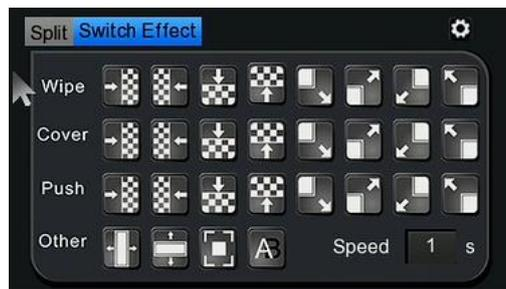

Figure 23 Switch Effect
2) **Switch effects**-As shown in Figure 23, the director of switching effects. According to the type is divided into: 1, erase wipe; 2, cover; 3, slide into the push; 4, other (blinds, dissolved, fade). Erase, overwrite, slide-in, and so on, each of which supports 8 different direction switching effects: up, down, left and right, and four diagonal directions. Speed is the switching speed, the greater the value the slower the speed.